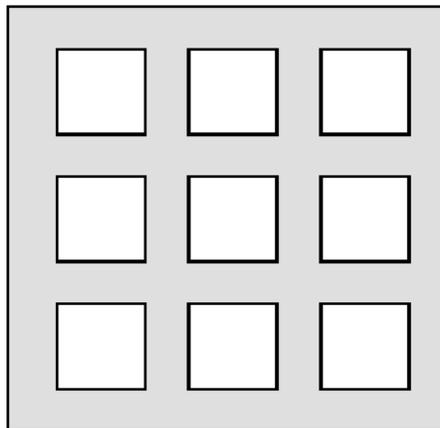

Figure 12. Solder Paste Application on Exposed Pad
3. For the PCB thermal pad, solder paste should be printed on the PCB by designing a stencil with an array of smaller openings that sum to 50% of the QFN exposed pad area. Solder paste should be applied through an array of squares (or circles) as shown in Figure 12.